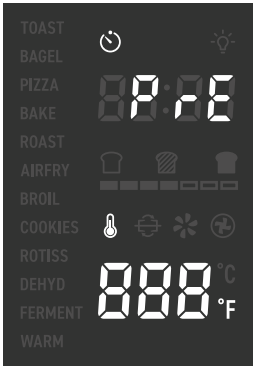

Figure 1.1
- When you start the cooking function by pressing **START/CANCEL**, preheating will start automatically. The START/CANCEL button will blink, and the display will show "PPE". [Figure 1.1]